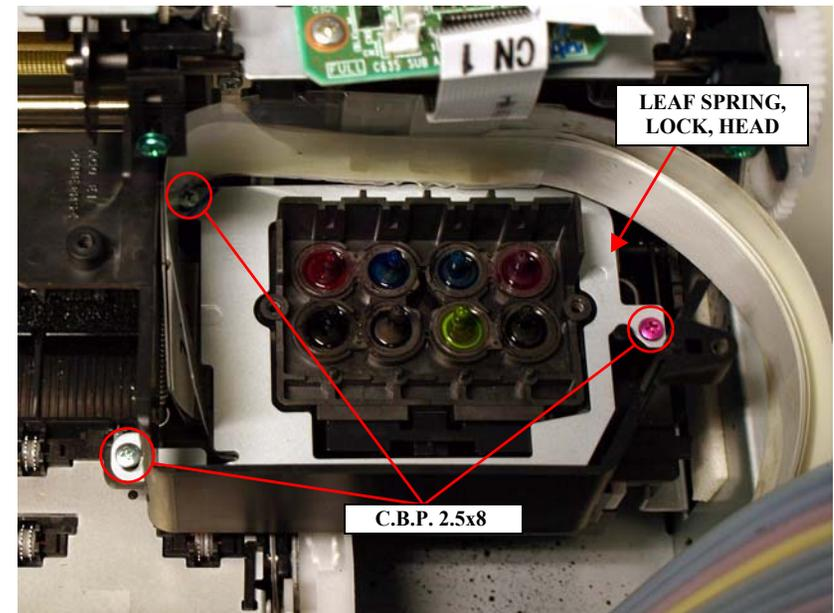

Figure 4-92. Removing the LEAF SPRING, LOCK, HEAD
7. Remove the three screws that secure the LEAF SPRING, LOCK, HEAD, and remove it upward. *See Figure 4-92.*